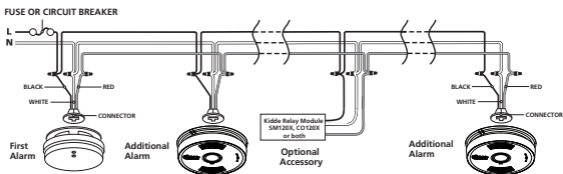

FIGURE 3 Interconnect Wiring Diagram
- Figure 3 illustrates interconnection wiring. Improper connection will result in damage to the alarm, failure to operate, or a shock hazard.